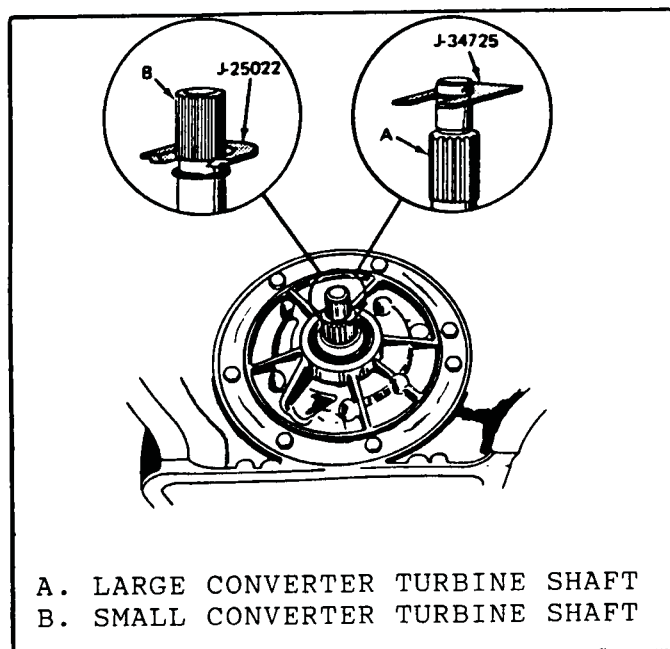

Figure 46
2. Install J-25022-A adapter, or J-34725 adapter, as shown in Figure 46 on turbine shaft.